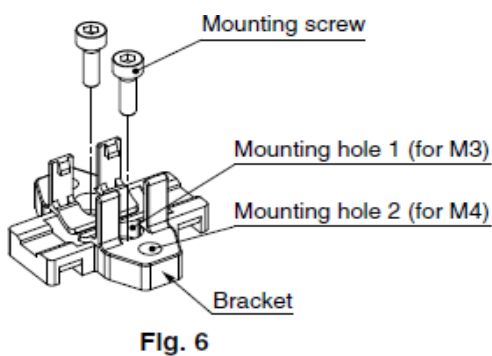

Fig. 6
- Mounting of the standard bracket (ZH18/20D□A) and adjustment of the vacuum (V) port
- (1) The standard bracket for the ZH18/20D□A can be mounted by using either mounting hole 1 or 2 (Fig. 6).
- (2) When mounting the product through mounting hole 1, mount the bracket to the installation surface first (Fig. 6).